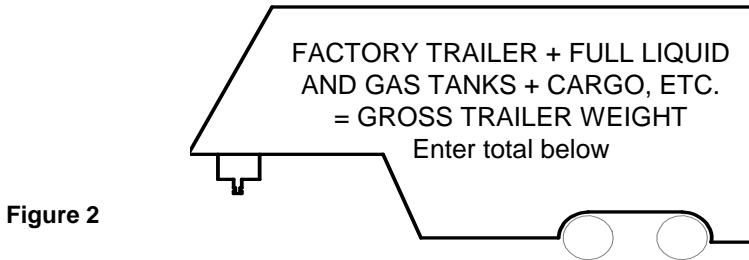

Figure 2
- Towing vehicle must have a manufacturer's rated towing capacity equal to or greater than the gross trailer weight (dry weight of the trailer plus payload of the trailer). (Figure 2)
Total calculated Gross Trailer Weight (Figure 2): _____